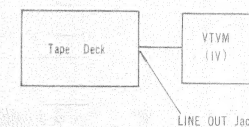

Figure 10.
1. Connect the VTVM across the LINE OUT jack. See figure 10.